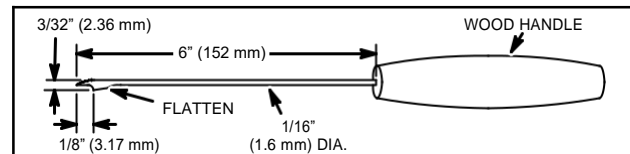

Fig. 10 – Rope Inserter
3. Insert pin through knot and pull tightly into handle, Fig. 10. ALWAYS SEAL BOTH ENDS OF KNOT.